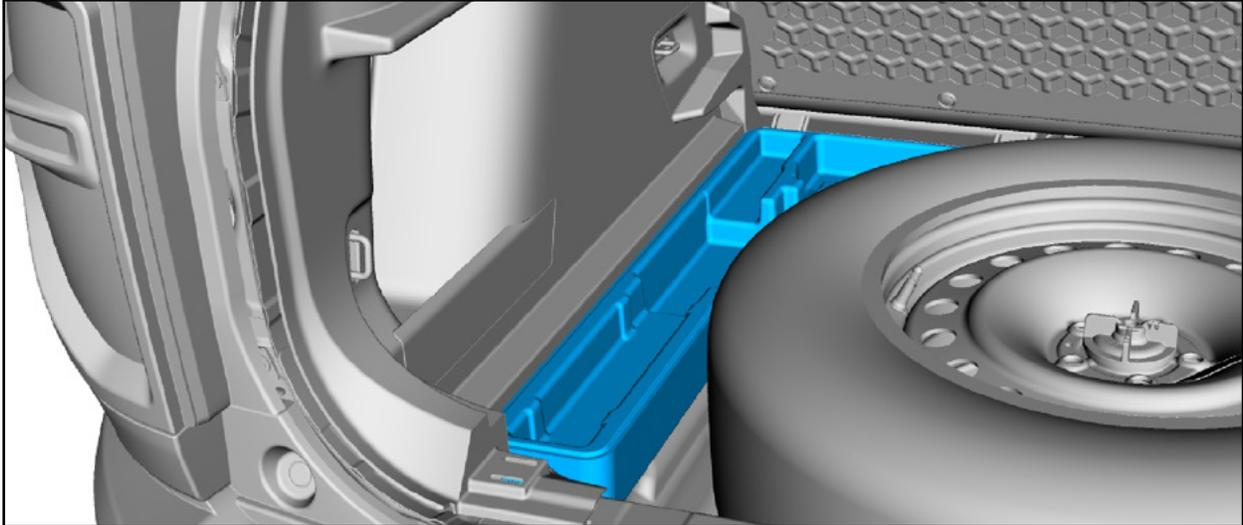

FIGURE 20
20. Remove the LH floor storage bin. See Figure 20.